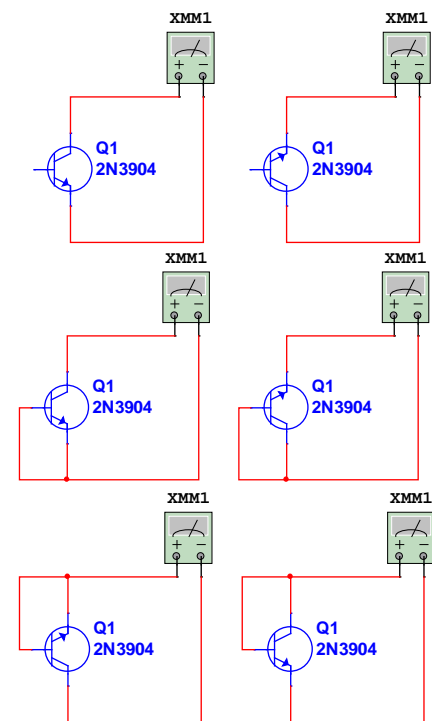

Figure 6. Six measurements, shown here for an NPN.
1. Measure the resistance and diode drops between emitter and collector with the base terminal open circuited as shown in the first row of figure 6. Try this with both polarities of the multimeter leads.